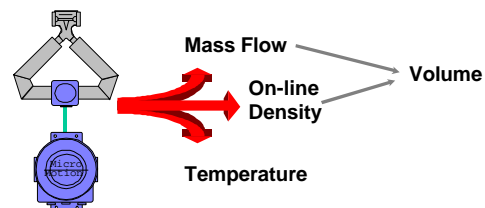

Figure 1
- Principle of operation ...see figure 1,